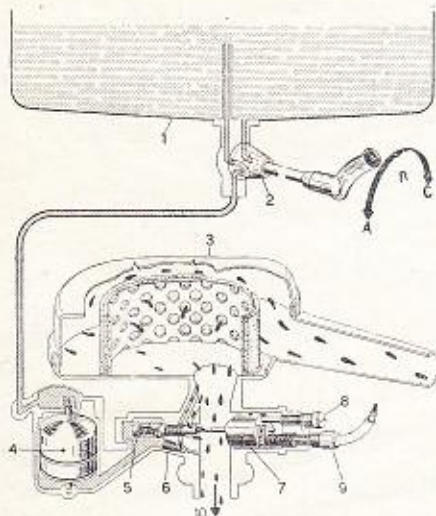

Fig. 7. Feeding circuit.
**Feeding.** Fuel feed to the carburettor is provided for by gravity (see Fig. 7) with petrol mixture.
**Starting the engine.** See on Fig. 7 the three positions of the tap: on, off, reserve.